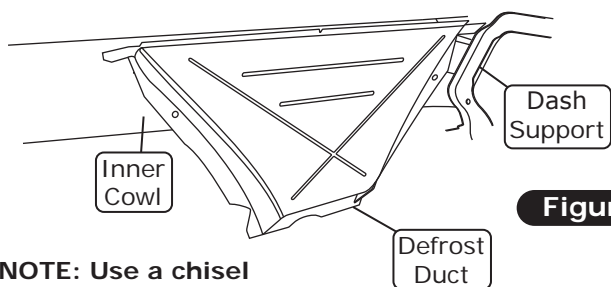

Figure 1
6. Using a chisel or die grinder, remove (3) spot welds on the defrost duct (See Figure 1, below).